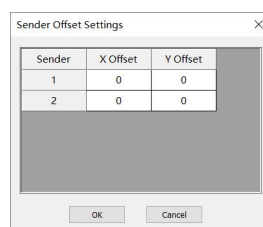

Fig 8.4.4.1 Sender offset setting
Step 1: Double-click on **Brightness/Chroma** under **Pixel-by-Pixel Calibration** in the main interface to set parameters under **Sender Offset Setting**. Then, click **OK** to access the **Brightness/Chroma Calibration** interface, as shown in Fig 8.4.4.1.